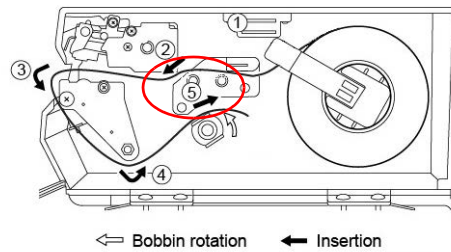

Figure 8-5. Thread Paper
- Thread the label as shown in Figure 8-5. Be sure the label is set directly on the two white rollers and under the black guide marked as "5" in the diagram.